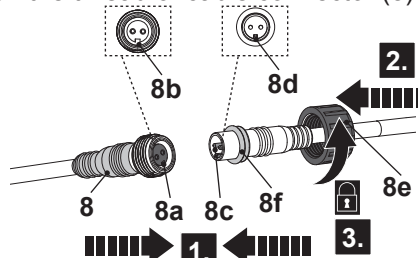

Fig. 3
- Align and insert the plug (8c) into the socket (8a) until the stop, ensure the spigot (8d) is fully engaged in the slot (8b) (Fig. 3, step 1).
2. Push forward the lock sleeve (8e) to the cable connector (8) until the stop (Fig. 3, step 2).
3. Hold the cable connector (8) in position, then tighten the locking sleeve (8e) in anti-clockwise on the thread of cable connector (8) (Fig. 3, step 3).